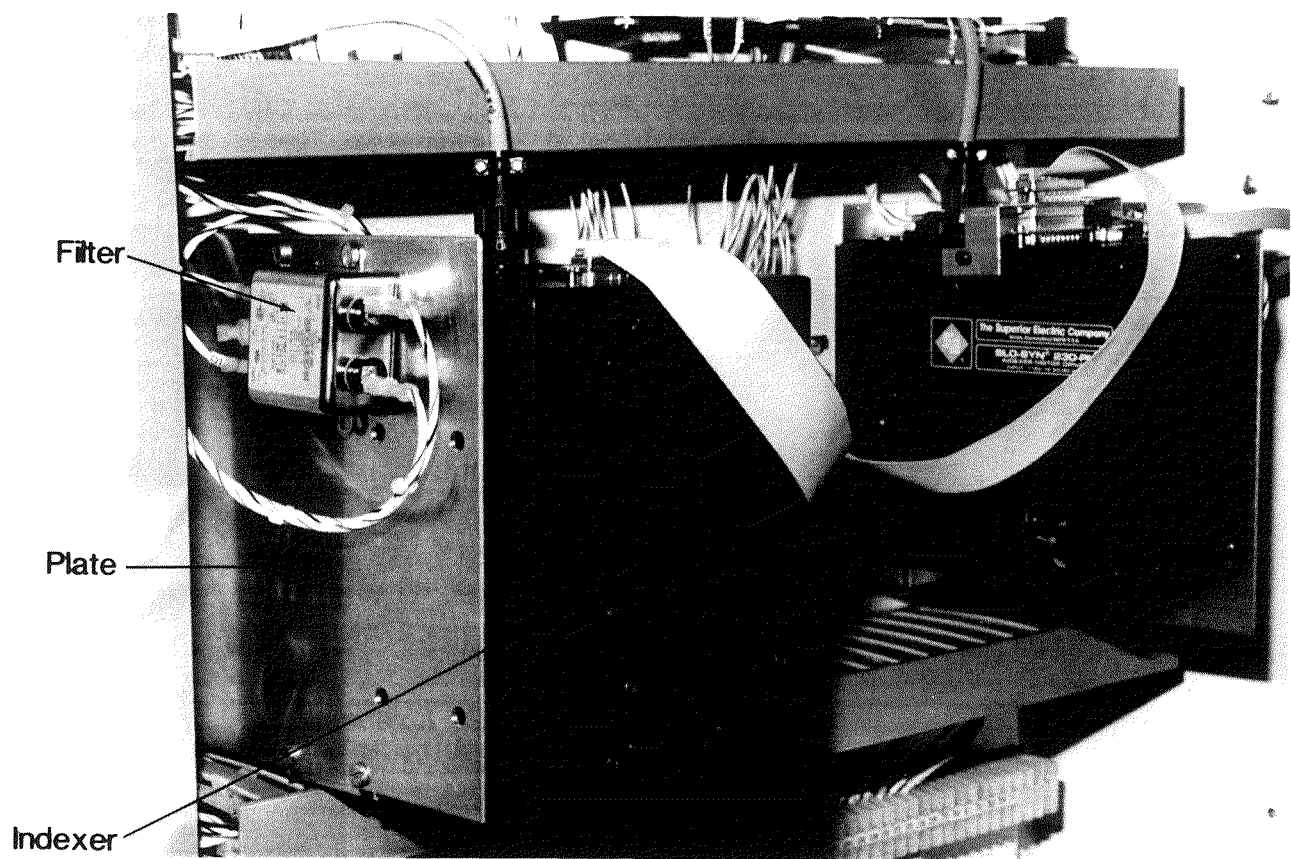

FIGURE 1
- The ac line filter must be installed by qualified personnel. Typical methods of locating and installing the line filter are shown in Figures 1 and 2.